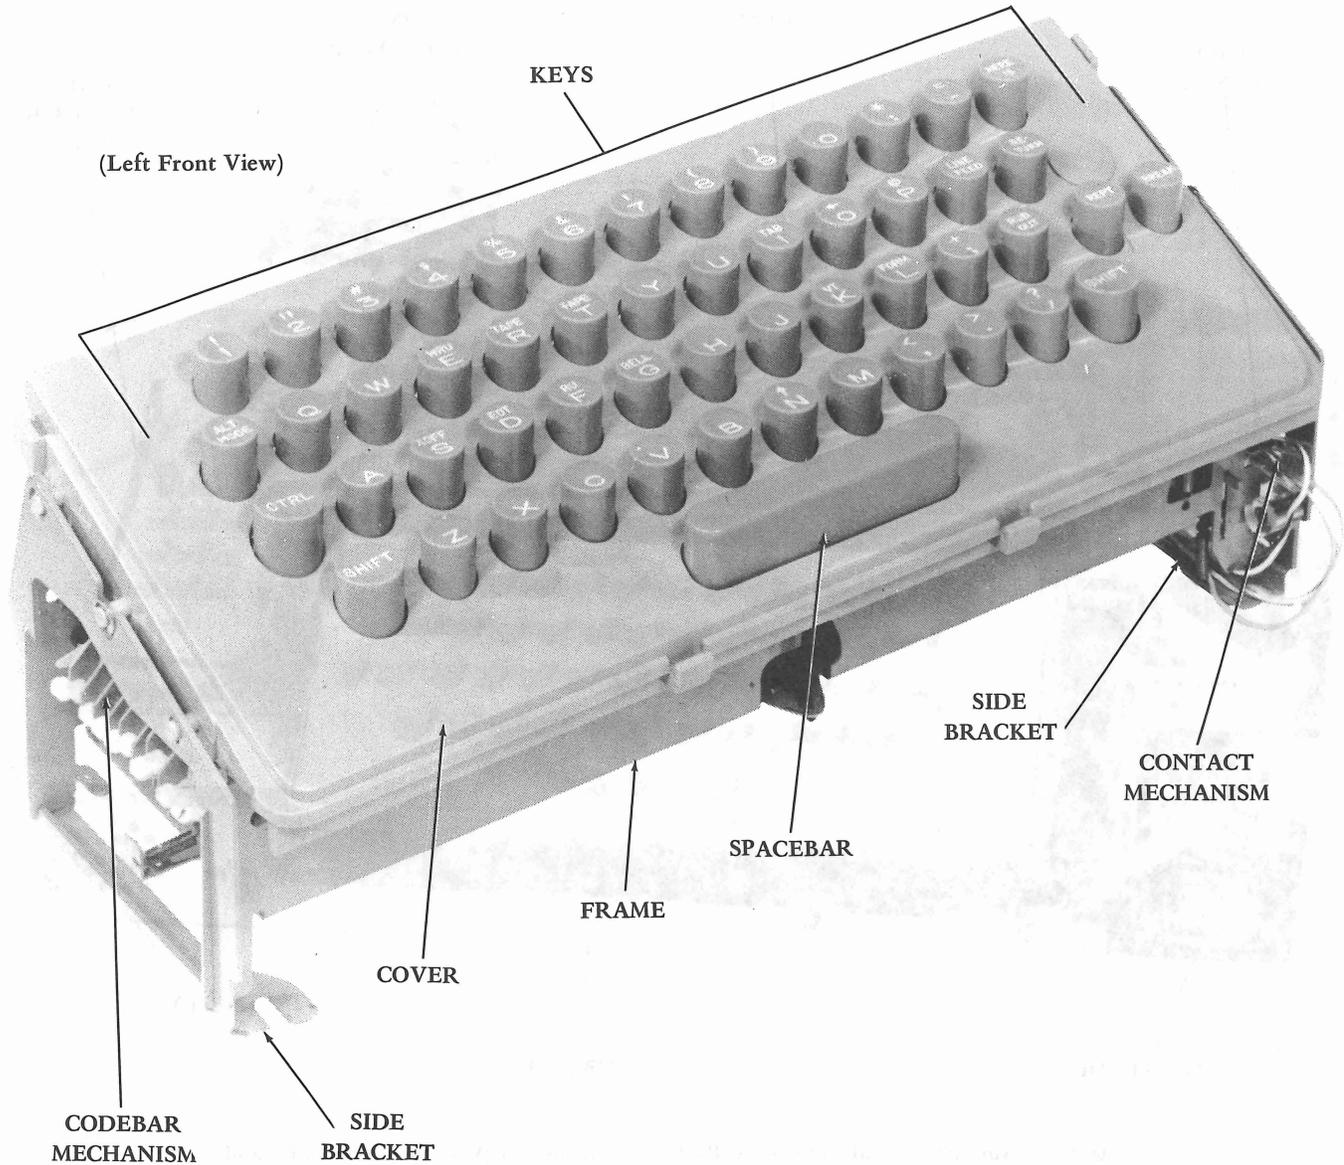

Figure 5 - 33 Keyboard
3.02 In conjunction with a distributor mechanism on the typing unit, the keyboard (Figure 5) provides facilities for generating messages by the manual operation of a group of keys.